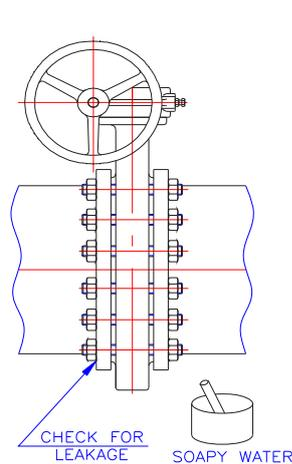

Fig.27
17.2.8 After installed the valve in the pipeline, check leakage of flange connecting faces by using compressed air. (Fig.27)